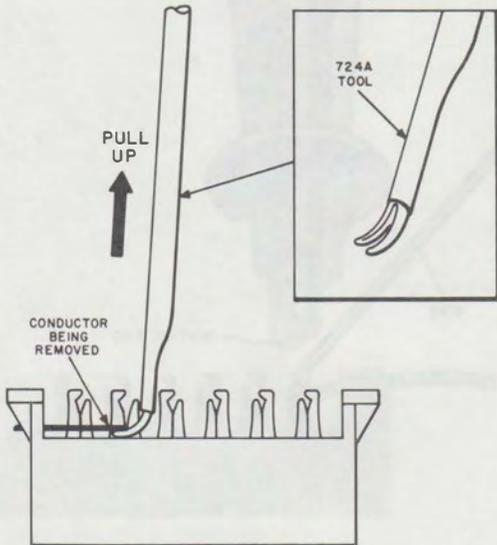

Fig. 4—Removing Conductor With 724A Tool
2.12 The 724A tool (Fig. 4) is used to remove conductors from the terminals of 66-type connecting blocks. The tool consists of a 2-pronged